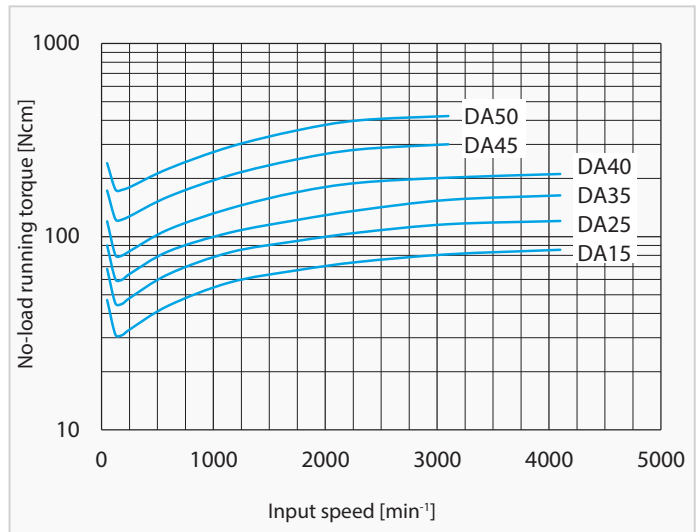

Fig. DA-1 Input side no-load running torque
- Fig. DA-1 shows the average no-load running torque after gearbox is run in (not factory-new condition).